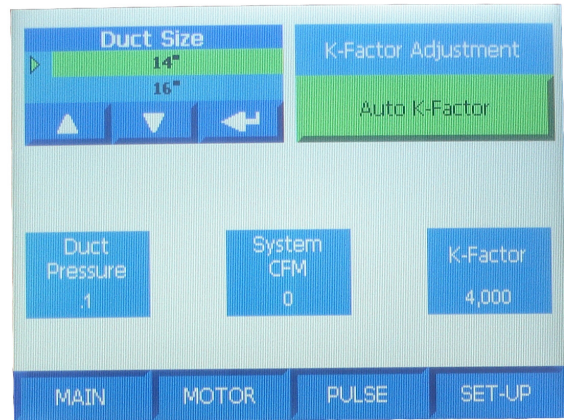

FIG 3
8. Select the duct size of the dust collection system. Use the arrow up/down keys to scroll through the duct size list. Press the enter key to select the duct size. FIG 3.
- k. Record the current K-Factor value. FIG 3.
- l. Press button labeled “Auto K-Factor”, the button will change to “Manual K-Factor and activate a green button where the K-Factor value was displayed. FIG 3.
- m. Press the green button where the K-Factor value was displayed. This will bring up a calculator style entry menu. Enter a new K-factor into the system. Use a lower number than the recorded value from step k if the CFM display is higher than the calculated CFM from step h. Use a higher number than the recorded value from step k if the CFM display is higher than the calculated CFM from step h. This may take several attempts to get the display value to match the calculated value. FIG 3